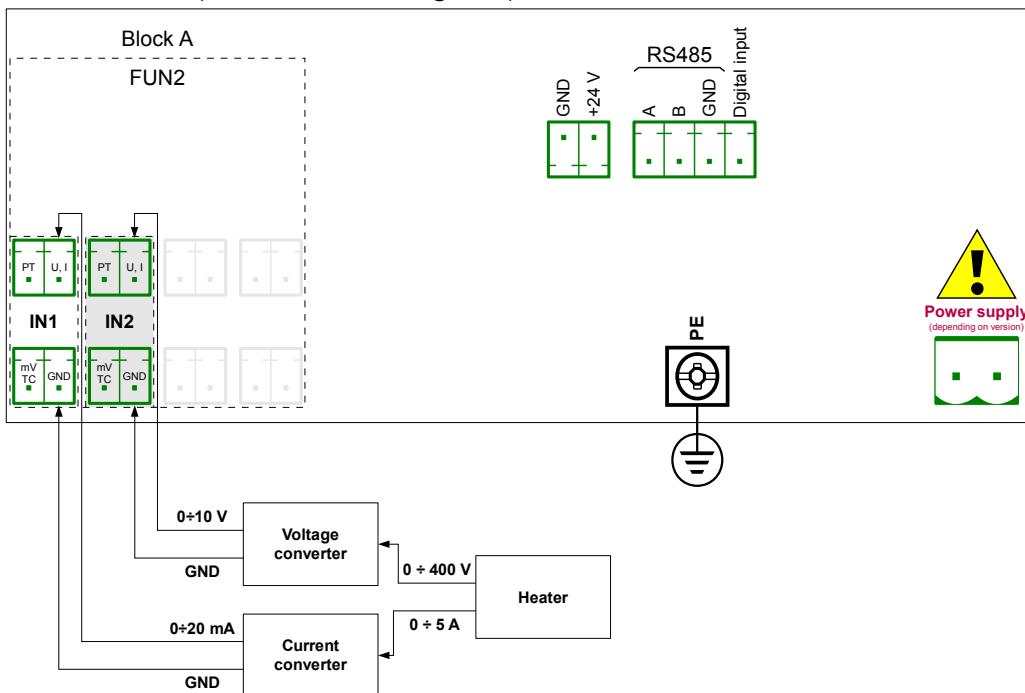

Fig. 7.62. Schematic diagram for the **FUN2** hardware configuration
First configure the device as described below, then connect the heater to converters and then to the device (in accordance with **Fig. 7.62**).
- **Source** parameter set as **Inp. A1: Universal** (see the connection in **Fig. 7.62**),
- **Source** parameter set as **Inp. A2: Universal** (see the connection in **Fig. 7.62**),